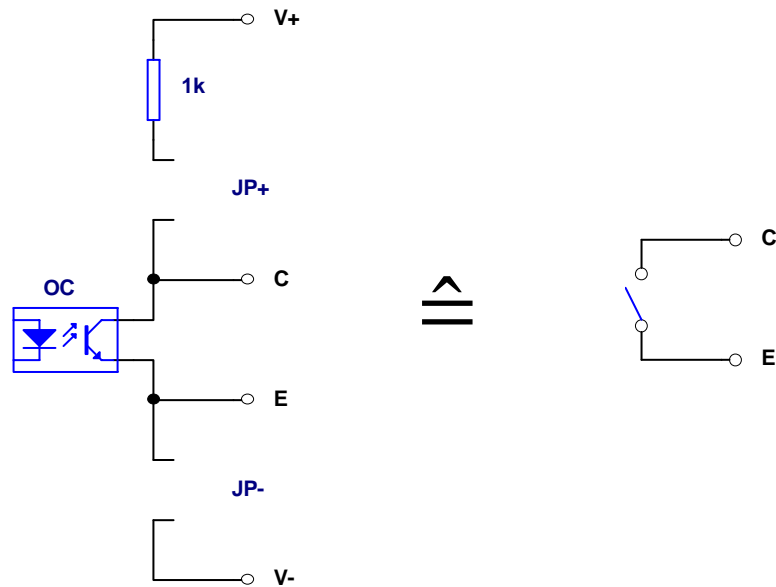

Fig. 2: Both jumpers removed → Simple switch between Terminals C and E
When, according to Fig. 2, none of both jumpers of a channel is installed, collector and emitter of the output transistor are only accessible via terminals C and E. The optocoupler then acts as a simple switch, where of course polarity must be obeyed: current can only flow into Terminal C and out of Terminal E.
3.2.1 No Jumpers Installed (see Fig. 2)
| | Fig. 2, Section 3.2.1 |